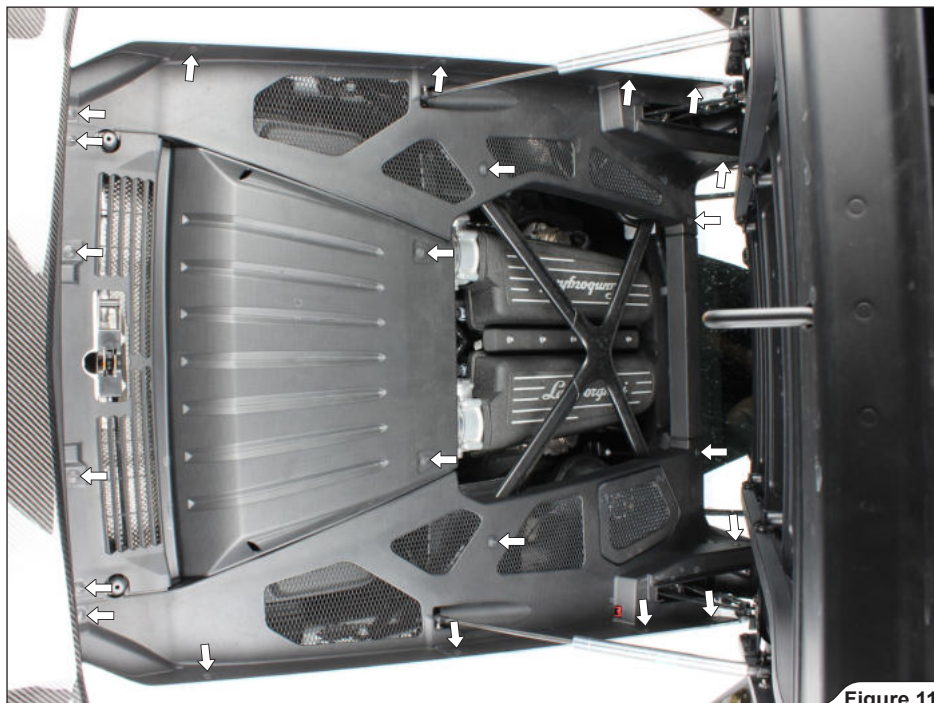

Figure 11
8. Undo the marked fasteners and remove the engine compartment panels (Figure 11).